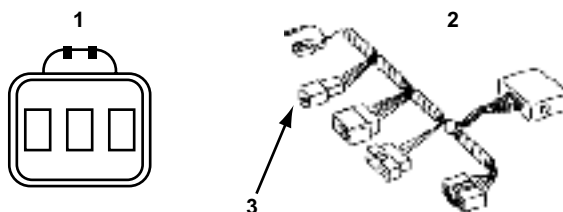

Figure 7-4 1989 Spectrum and 1990-94 Storm connector and adapter
- Connect the MULTI-2-D adapter to the connector near the passenger kick panel (Figure 7-4).